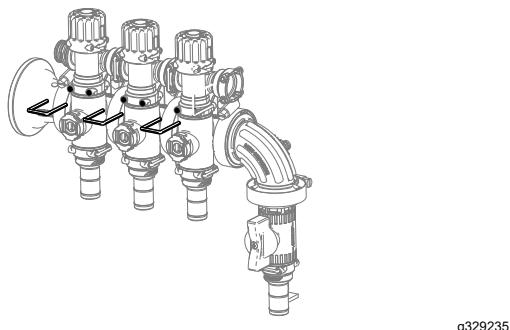

Figure 16
7. Install the boom valve cluster using the retainers previously removed as shown in Figure 16.